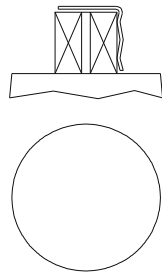

FIGURE 2. Location of Anti-Backlash Spring on 07 & Larger Squares. (Metal Coupling only)
3.1.4 (a) Metal coupling versions on 07 and larger models: fit anti-backlash spring over one corner of the actuator square as shown in Figure 2.